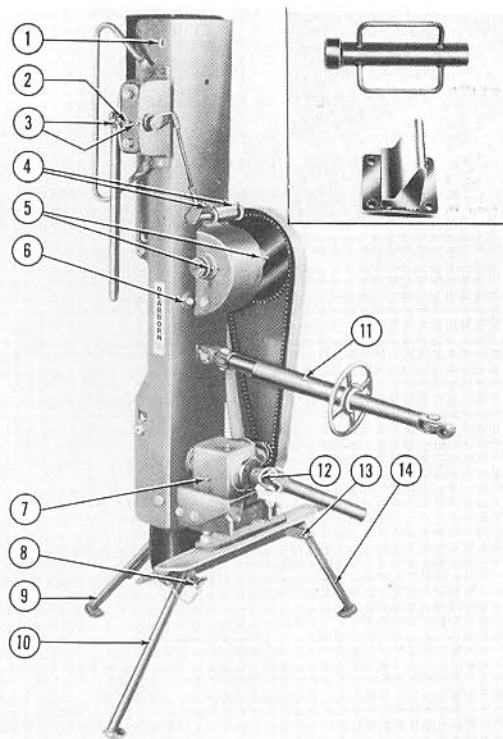

Figure 2
The Post Cap, Model 22-55, and Breaker Head, Model 22-56, are extra equipment (see insert, Figure 2). When purchased, they each comprise an additional bundle.
12. Attach the right and left legs (10) and (14), Figure 2, to the welded pins (8) and (13) provided on the hitch bar. Secure the left leg (14) with the cotter pin provided.
13. Attach the rear leg (9), Figure 2, to the hitch bar at the pin (8) provided for the right leg (10). Raise the driver slightly until the legs can be folded into place. Secure with the linch pin provided.
The gear box assembly is filled at the factory. Before operation, the level of oil should be checked by removing the level plug (7), Figure 2, located on the right side. It should be drained and refilled twice yearly with approximately one pint S.A.E. (E.P.) 140 oil. Fill until the oil reaches the level plug (7), Figure 2.
**Friction Wheel and Cam Bracket:** Friction wheel wear is compensated for by means of shims (6), Figure 2, provided at the friction wheel and cam brackets. These shims may be removed if slippage is noted when the driver is raised.
**Ball Joint Rod:** If shims (6), Figure 2, are removed from the friction wheel bracket, it may be necessary to adjust the ball joint rod (6), Figure 1, slightly so that the driver can maintain the same time cycle.
4. Attach the Breaker Head, Model 22-56 (see insert Figure 2), to the driver head with four  $\frac{5}{8}$ " x  $2\frac{1}{2}$ " cap screws and lockwashers provided.
8. Install the transport pin (11), Figure 1, in the upper holes (1), Figure 2, in the channel guide assembly.
2. Remove the rear support leg from the hitch bar assembly (12), Figure 1, and position the side support legs (10) and (14), Figure 2, out from base of the driver, as shown.